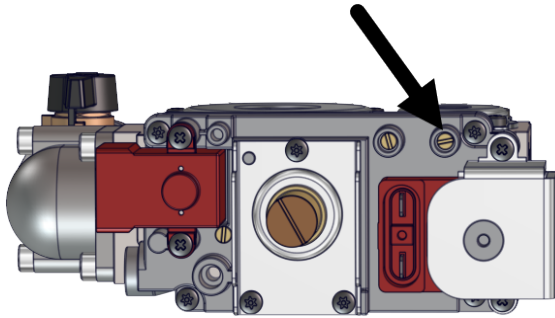

Figure 45 Location of inlet gas pressure test port
1. Shut off the gas supply. You will be measuring the inlet gas supply from the test port (see Figure 45). Do not perform a test from the manifold gas pressure test port.